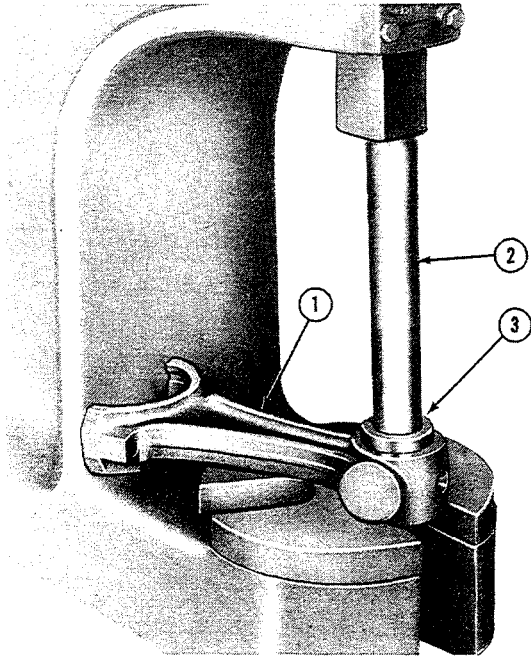

Figure 48
1. Remove the connecting rod bushing from the connecting rod with Driving Mandrel No. 815 Adapter No. T-809, and an arbor press, Figure 48.